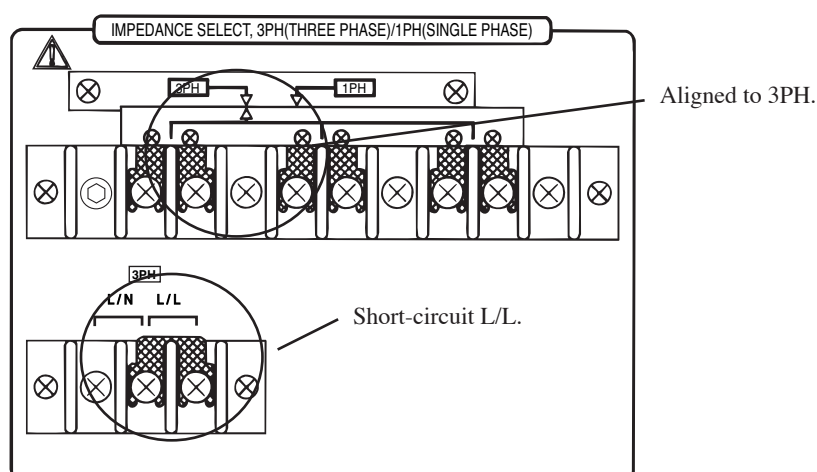

Fig. 2-3 Three-Phase Circuit Settings
1. Make sure that terminal board connection is made as shown in Fig. 2-3.